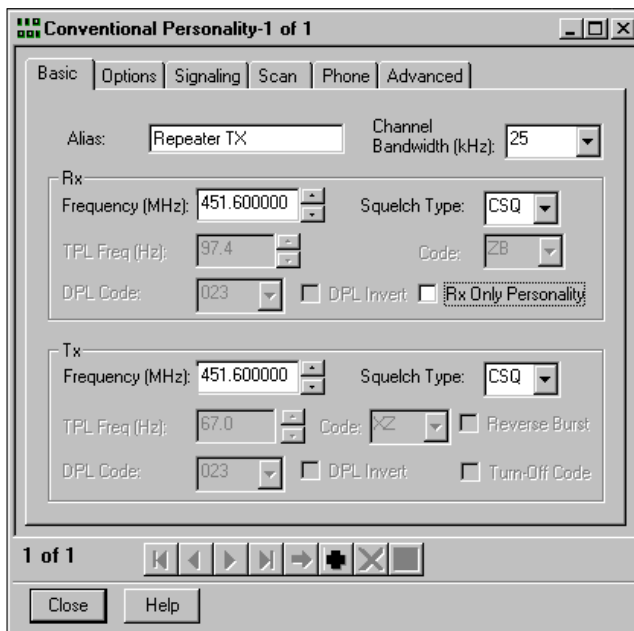

Figure 10-7. Conventional Personality, Basic, Transmit Radio
- Select the “Squelch Type:” as “CSQ” (Carrier Squelch). Your screen should appear similar to Figure 10-7.